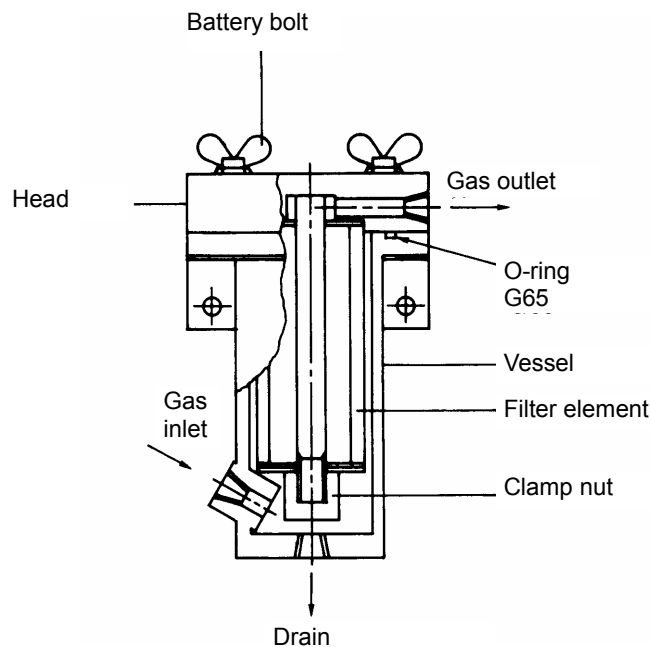

Fig.6-1 Structural Diagram of Mist Filter
- (1) Stop the gas aspirator (pump).
- (2) When the sample gas is kept under a positive pressure, close the valves, etc. arranged at the preceding stages to prevent the sample gas from spurting out during replacement of the filter element.
- (3) After loosening the butterfly bolts, pull out the filter head upward from the vessel.
- (4) Loosen the clamp nut (Fig. 6-1) and remove the contaminated filter element while taking care not to lose the O-ring.
- (5) Assemble a new filter element by following the reverse to the disassembling procedures described above.
- (6) The filter element should be replaced with a new one once every two to six months (depending on the diameter of filter and dust concentration at the preceding stage).